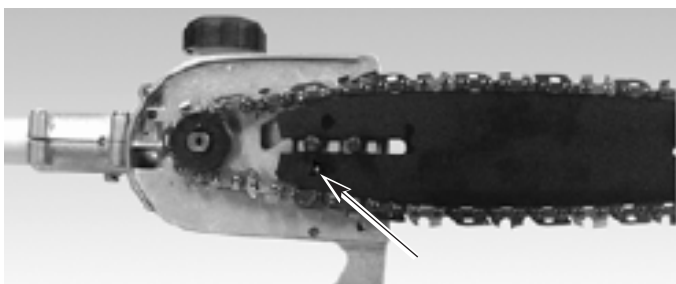

Fig. 11
4. Loop the saw chain over the drive sprocket with the cutting edges of the chain pointing in the direction of rotation (Fig. 11).